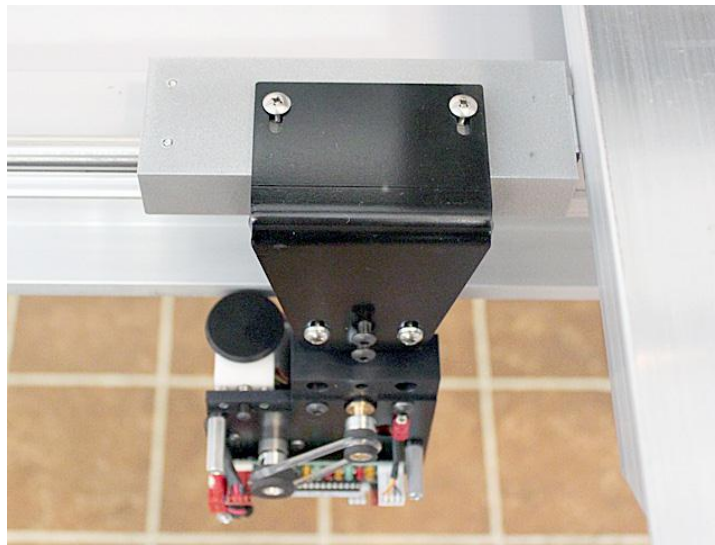

Fig. 9
- Set the bracket's position so both the drive roller and the sensor wheel run securely on the ridge of the front table rail, as shown on Fig. 9. There should be a 0.08" (2 mm) gap (about two credit cards' thickness) between the drive roller and the ridge when all the screws are fully tightened. Move the drive roller and sensor wheel in/out to achieve the best alignment. **For detailed alignment and adjustment instructions see the "New Motor Bracket Installation" and "New Motor Bracket Adjustment" documents.**